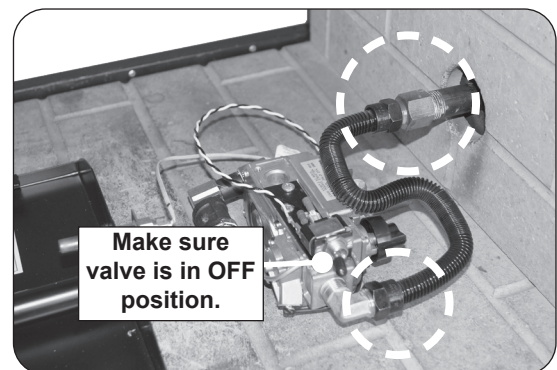

Fig. 18-3 Perform leak test
6. **LEAK TEST:** Make sure the burner valve is in the OFF position. Turn on the fireplace gas supply, and test at all connections for leaks using the appropriate soapy water solution. See Fig. 18-3. If bubbles appear, a leak is present. Turn off the gas and tighten at all connections. Repeat until no leaks are present. If a leak persists, turn off the gas supply and contact the local gas company or dealer. **NEVER USE A FLAME TO CHECK FOR LEAKS.**